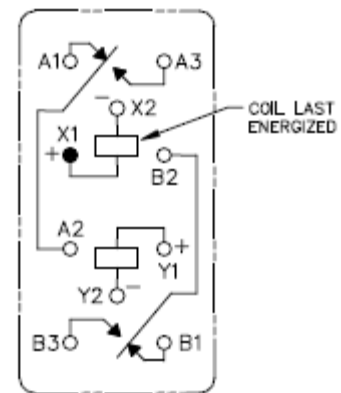

Figure 2
4. Circuit Diagrams shown in Figure 2 are terminal views (as seen from the bottom of the relays).